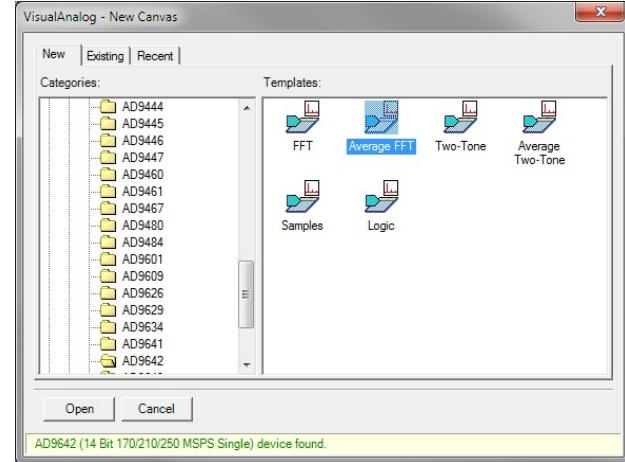

Figure 4. VisualAnalog, New Canvas Window
1. Open VisualAnalog® on the connected PC. The appropriate part type should be listed in the status bar of the VisualAnalog – New Canvas window. Select the template that corresponds to the type of testing to be performed (see Figure 4 where the AD9642 is shown as an example). The AD9642 is given as an example in this user guide. Similar settings are used for the AD9634. For the AD6672, the differences are noted where necessary in the steps that follow.